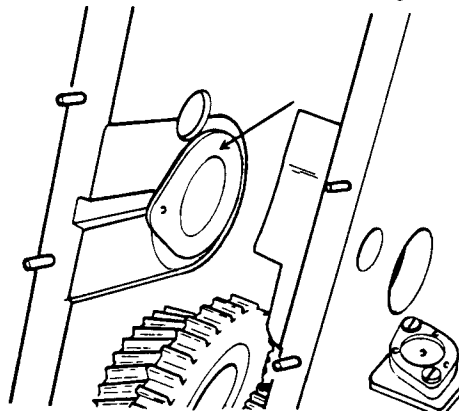

Fig H2.10
- (1) Refer to Fig H2.10. First fit the thrust washer on the casing which is fitted with dowels.